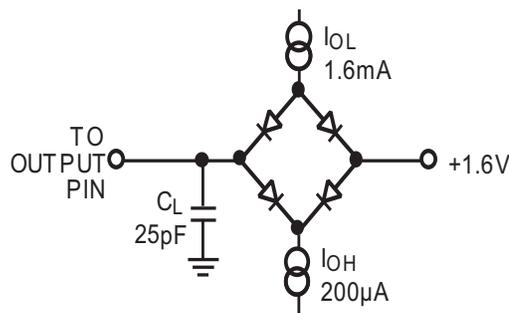

Figure 3. Load Circuit for Digital Output Timing Specifications
- ⁵Measured with the load circuit of Figure 3 and defined as the time required for the output to cross 0.8 V or 2.4 V with $V_{DD} = 5$ V and time for an output to cross 0.4 V or 2.0 V for $V_{DD} = 3$ V.
- ⁶ t_8 is derived from the measured time taken by the data outputs to change 0.5 V when loaded with the circuit of Figure 3. The measured number is then extrapolated back to remove the effects of charging or discharging the 50 pF capacitor. This means that the time, t_8 , quoted in the timing characteristics is the true bus relinquish time of the part and is independent of the bus loading.